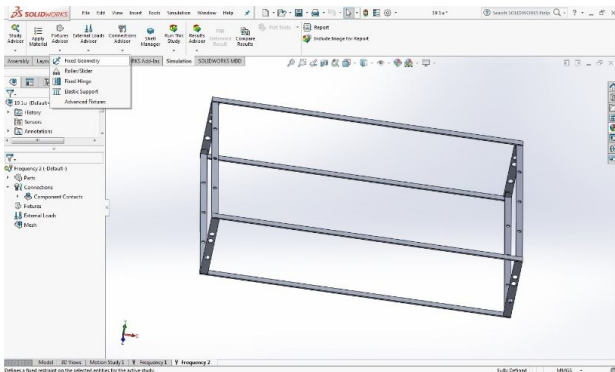
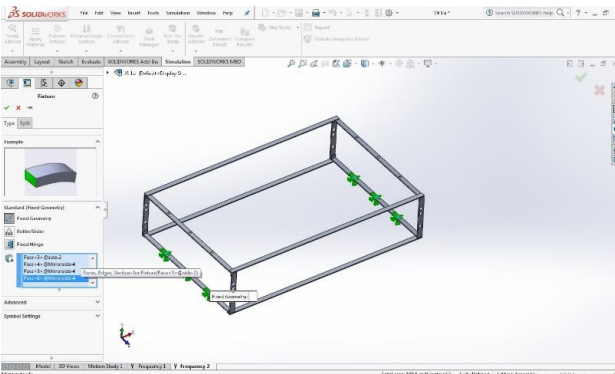

Fig.2b- Defining fixtures
Fig.2c- Defining fixtures
- The fixtures defining is detailed in fig.2b and fig.2c